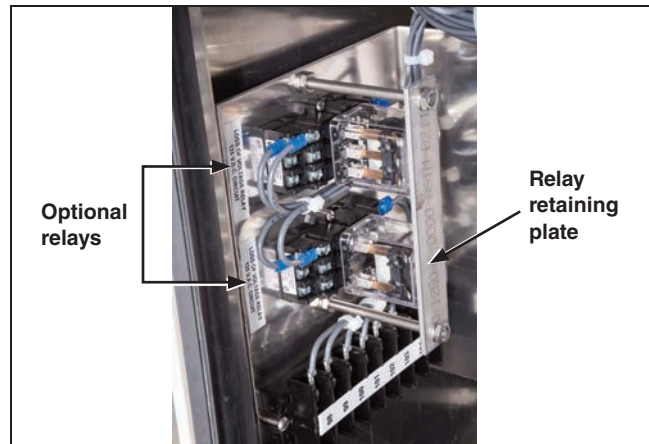

Figure 39. Making sure all optional “ice-cube” style relays are fully seated and the retaining plate is in place.
- Any optional “ice-cube” style relays (used for catalog option “-P” and “-T2”) are fully seated (See Figure 39 on page 32.)